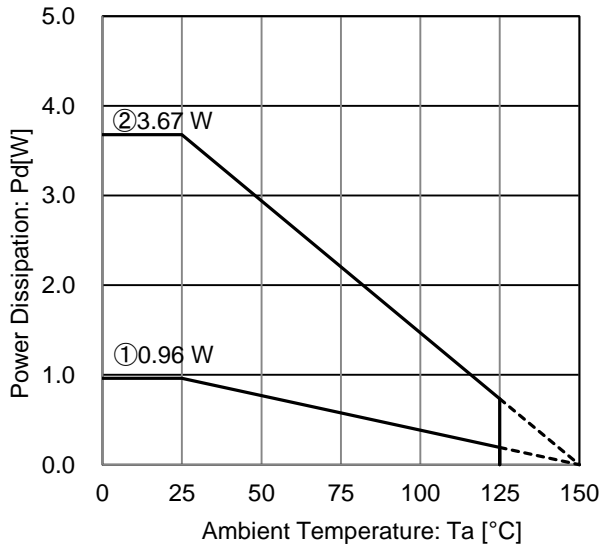
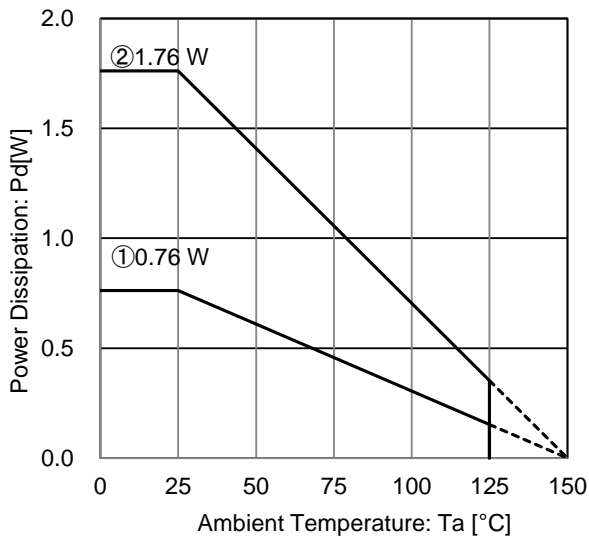

Figure 25. HTSOP-J8 Package Data
Figure 27. SOT223-4(F) Package Data
Refer to the heat mitigation characteristics illustrated in Figure 25 to Figure 27 when using the IC in an environment of $T_a \geq 25^\circ\text{C}$. The characteristics of the IC are greatly influenced by the operating temperature, and it is necessary to operate under the maximum junction temperature T_{max} . Even if the ambient temperature T_a is at 25°C it is possible that the junction temperature T_j reaches high temperatures. Therefore, the IC should be operated within the power dissipation range.
At $T_a = 125^\circ\text{C}$ with Figure 25 ② condition, the calculation shows that ca 71.5mA of output current is possible at 10.2V potential difference across input and output.
At $T_a = 125^\circ\text{C}$ with Figure 25 ② condition, the calculation shows that ca 85.8mA of output current is possible at 8.5V potential difference across input and output.
At Ta=125°C with Figure 27 ② condition, the calculation shows that ca 34.3mA of output current is possible at 10.2V potential difference across input and output.
At Ta=125°C with Figure 27 ② condition, the calculation shows that ca 41.1mA of output current is possible at 8.5V potential difference across input and output.